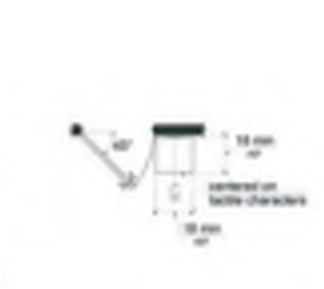

FIGURE 11B-703.4.2
11. MOUNTING LOCATION: A TACTILE SIGN SHALL BE LOCATED PER CBC SECTION AND FIGURE 11B-703.4.2 AS FOLLOWS: